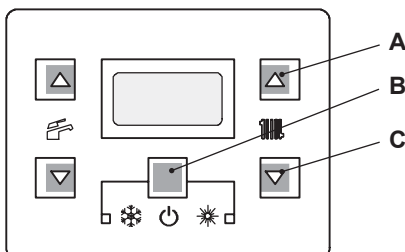
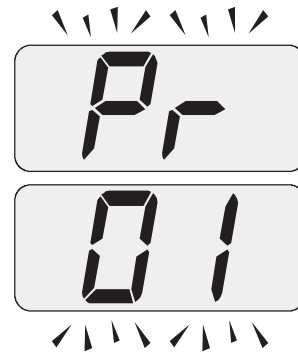
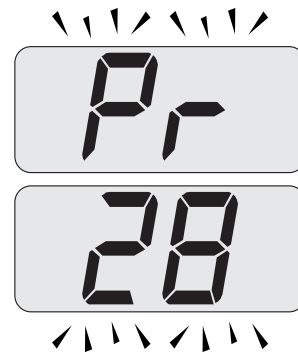

Figure 4.1
Figure 4.2
Figure 4.3
- 1 To enter in the parameters setting mode press sequentially the 3 keys "B - C - A" (Figure 4.1) and hold in for 10 second until the display shows Figure 4.2.
- 2 Scroll the various parameters using keys "A" or "C" (Figure 4.1) until the LCD display indicates the letters **Pr**, alternating with the code **28**, indicating entry in "parameter 28" (Figure 4.3).
- 3 Press keys "B" and "A" (Figure 4.1) at the same time until the LCD display indicates the value of parameter 28 (e.g. 12 default value) Figure 4.4.
- 5 By pressing key "B" (Figure 4.1) confirmation of the inserted value is obtained.
- 6 By pressing keys "B" and "C" (Figure 4.1) together, you will exit without changing the value (return to parameter list Figure 4.3).
- 7 Press keys "B - C - A" (Figure 4.1) together for 10 seconds to exit "programming mode".